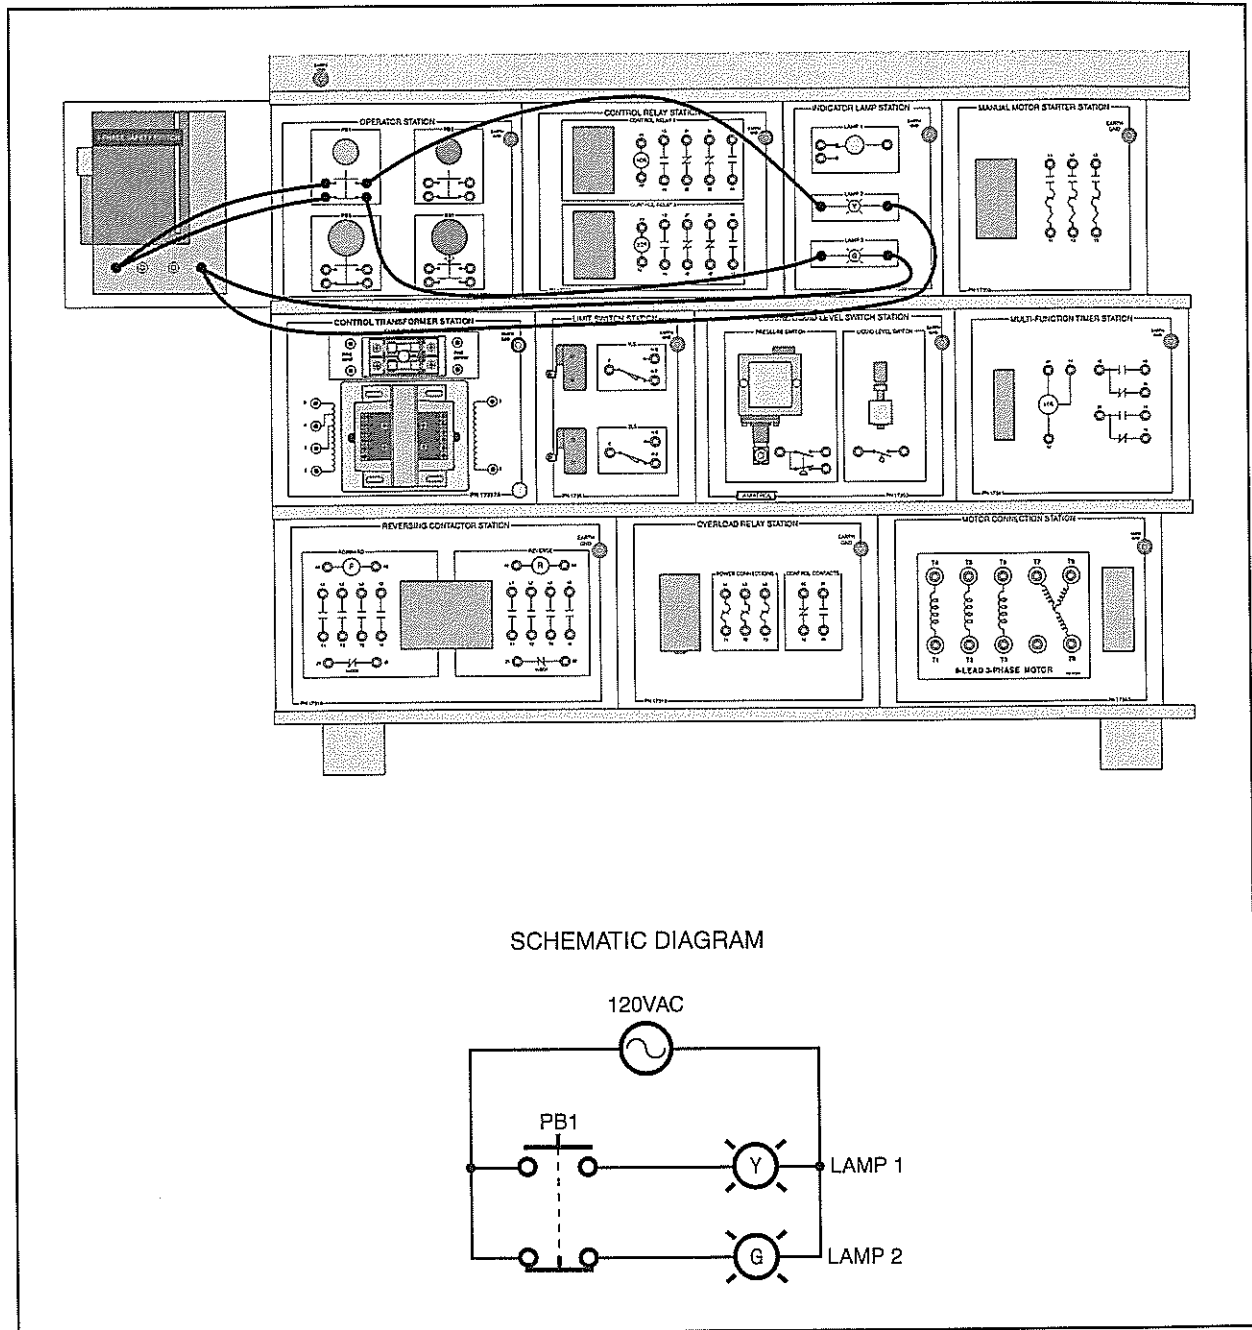

Figure 13. Pictorial and Schematic Diagrams to Connect Yellow and Green Indicator Lamps to 120 VAC Through the Contacts of a Pushbutton Switch (PB1)
- 2. Connect two of the indicator lights to single-phase 120VAC through the contacts of a pushbutton switch, as shown in figure 13.